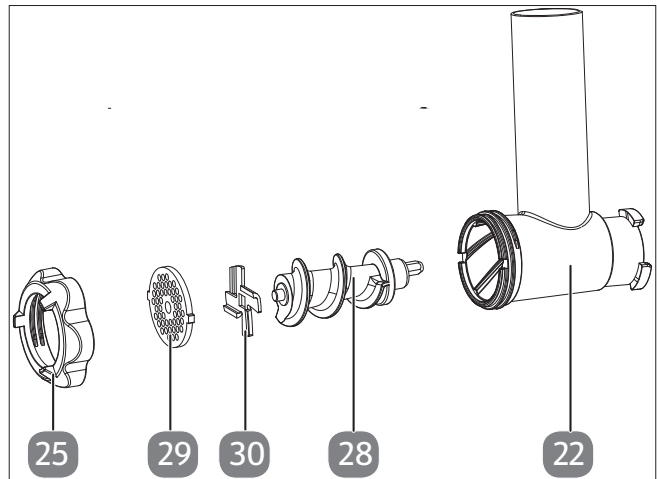

Fig. 17 – Accessories for mincing
1. Place the cross blade on the worm screw with the sharp edges facing outwards towards the axis and then the perforated blade disc together in the order shown (see Fig. 17).